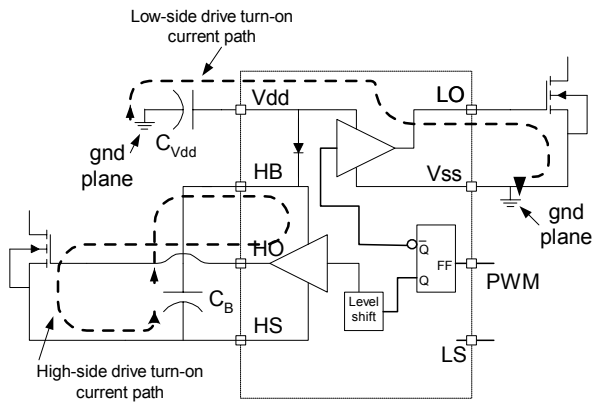
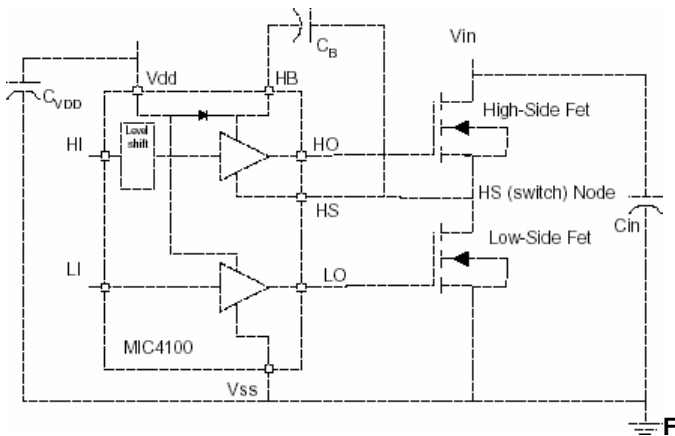

Figure 9. Turn-on Current Paths
Figure 11. Typical Converter Power Stage
Figure 9 shows the critical current paths when the driver outputs go high and turn on the external MOSFETs. It also shown the need for a low impedance ground plane. Charge needed to turn-on the MOSFET gates comes from the decoupling capacitors C_{VDD} and C_B. Current in the low-side gate driver flows from C_{VDD} through the internal driver, into the MOSFET gate and out the Source. The return connection back to the decoupling capacitor is made through the ground plane. Any inductance or resistance in the ground return path causes a voltage spike or ringing to appear on the source of the MOSFET. This voltage works against the gate voltage and can either slow down or turn off the MOSFET during the period where it should be turned on.
3. Trace out the high di/dt and dv/dt paths, as shown in Figures 9 and 10 to minimize the etch length and loop area for these connections. Minimizing these parameters decreases the parasitic inductance and the radiated EMI generated by fast rise and fall times. A typical layout of a synchronous Buck converter power stage using the MIC4102 (Figure 11) is shown in Figure 12.